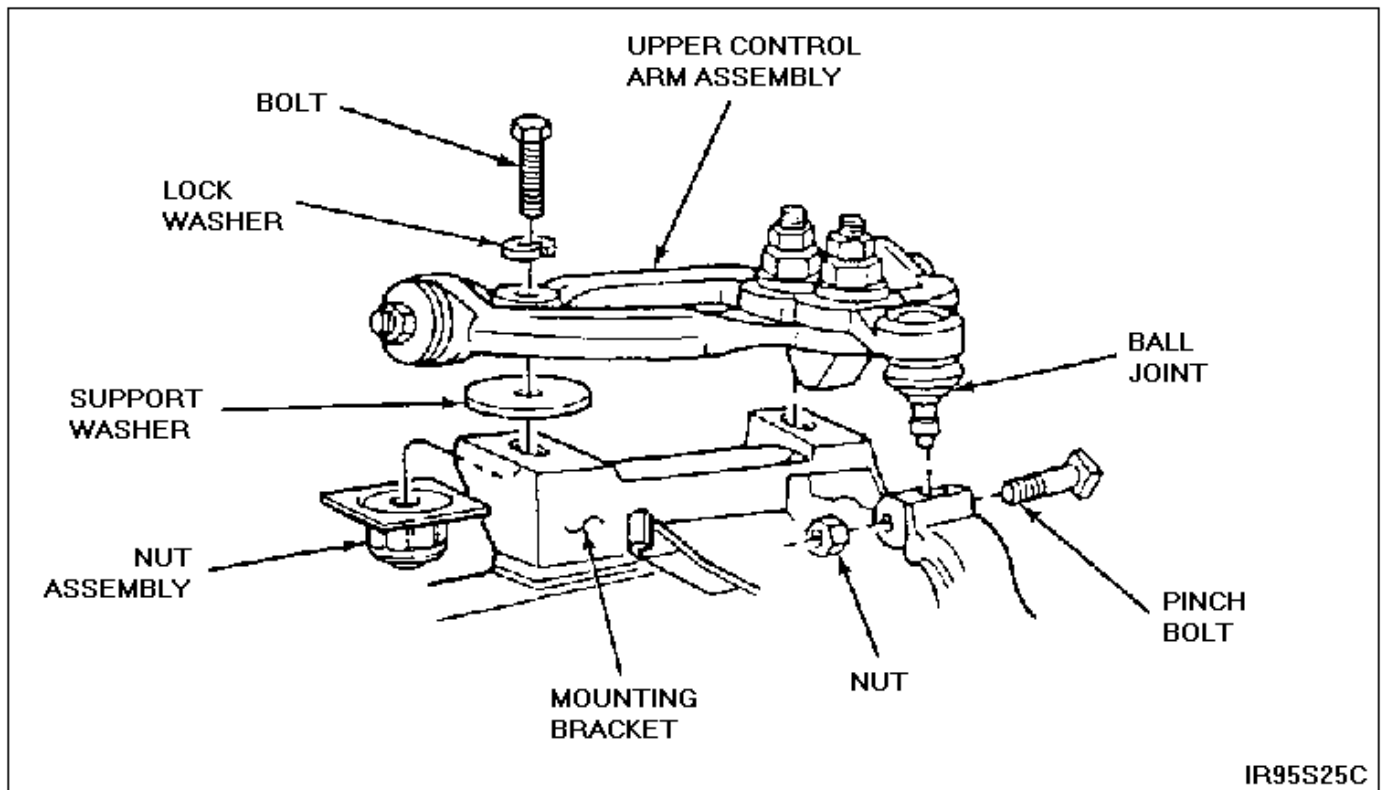

Figure 3
5. Remove retaining nut from upper ball joint stud to front wheel spindle pinch bolt. Refer to Figure 3.
9. Reinstall the front suspension upper arm with supplied bolts, support washers, lock washers and nut assemblies. Position upper arm shaft near the center of the slot adjustment range. Position the support washer between the upper arm shaft and the mounting bracket, and the lock washer between the head of the bolt and the upper arm shaft. Tighten the bolts to 163-190 N-m (120-140 ft-lb). See Figure 3.